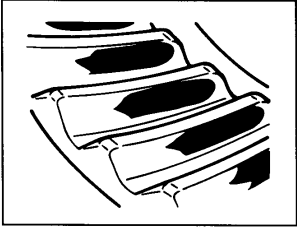

Figure 112A
4. Look at the contact patterns on the ring gear teeth. Compare the patterns to **Figures 112A or B, 113A or B, and 114A or B.**
New Conventional and Generoid Gear Sets — toward the toe of the gear tooth and in the center between the top and bottom of the tooth. Refer to **Figures 112A and 112B.**